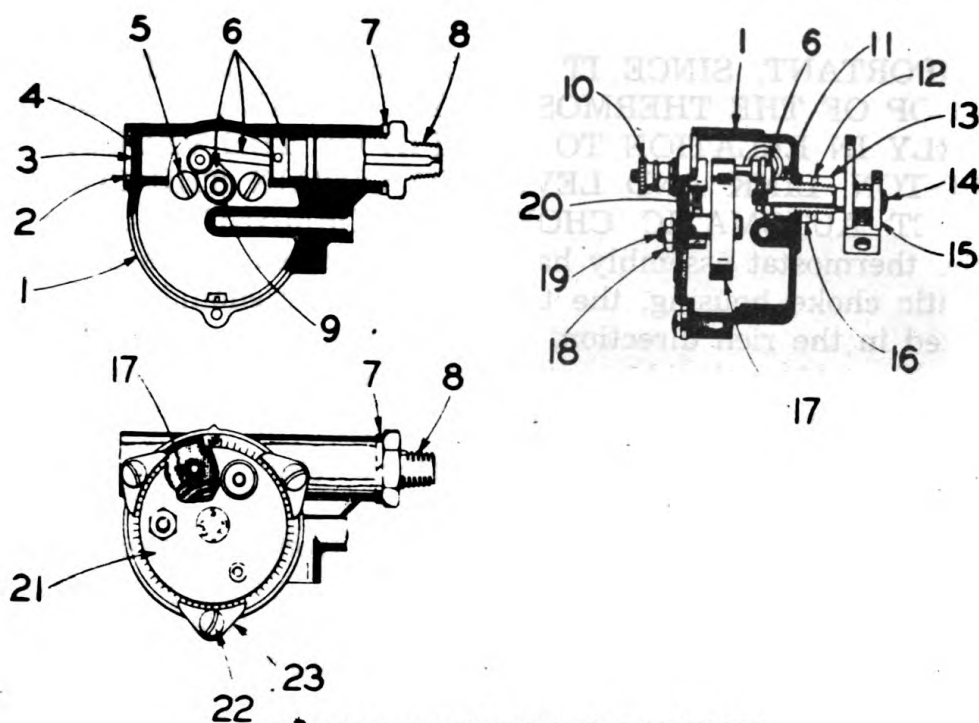

FIGURE 10—AUTOMATIC CHOKE COMPLETE
19. Automatic choke (Figure 10)